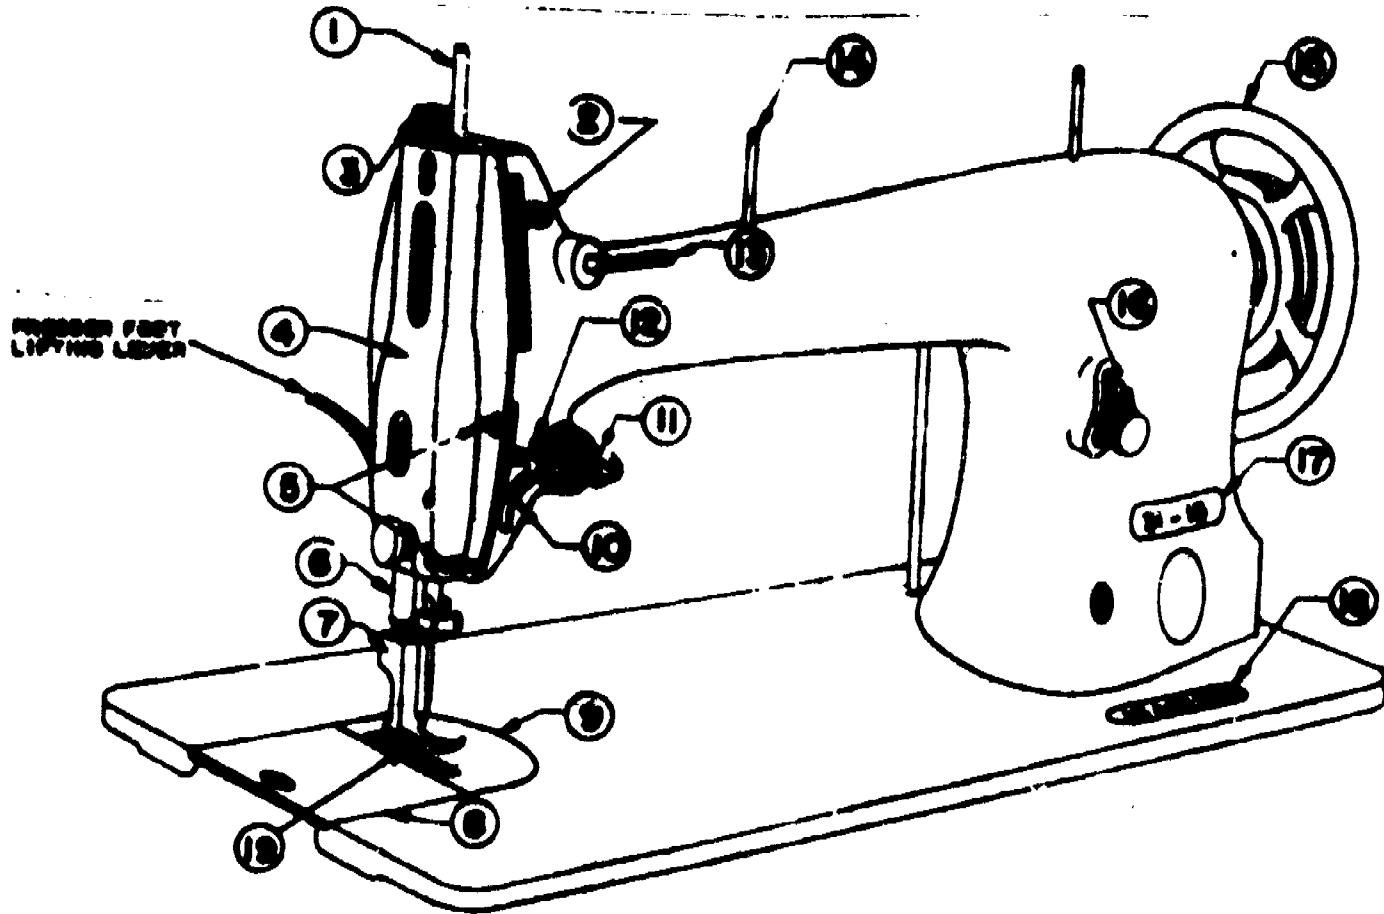

Figure 7. Functional Features of a Sewing Machine Head, Type 31-15.
Refer to figure 7 and then fill in the blanks on the diagram below.
- b. Locate all the labeled parts of the machine as shown in figure 7.